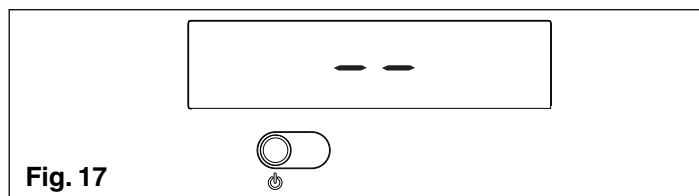

Fig. 17
- ⚠ The boiler turns on in the status it was in before it was switched off: if the boiler was in the winter comfort mode when it was switched off, it will turn on again in the winter comfort mode. If it was in the OFF mode, the display will show two segments in the central area (fig. 17). Press the button to enable operation.
For brief absences press the  button to switch off the boiler. The display will show two segments in the central area (fig. 17). When the boiler remains powered with the gas tap open, it is protected by the following systems:
For prolonged absences press the  button to switch off the boiler (fig. 17). The display will show two segments in the central area. Turn the main switch to “off”.